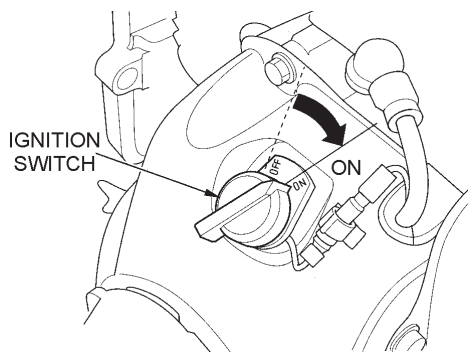

Figure 6. On Off Switch
2. Set the engine ON/OFF switch (Figure 6) to the "ON" position (start).